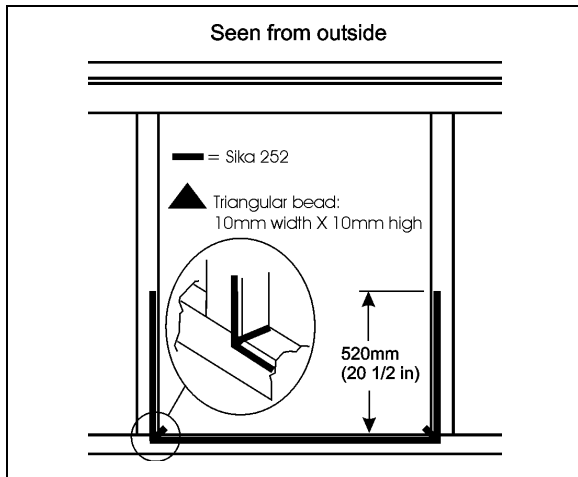

FIGURE 70: AWNING WINDOW – SIKa 252 APPLICATION
- Apply Sika 252 as per FIGURE 70 (triangular bead: 10mm width X 10mm high) [10mm≈3/8"];